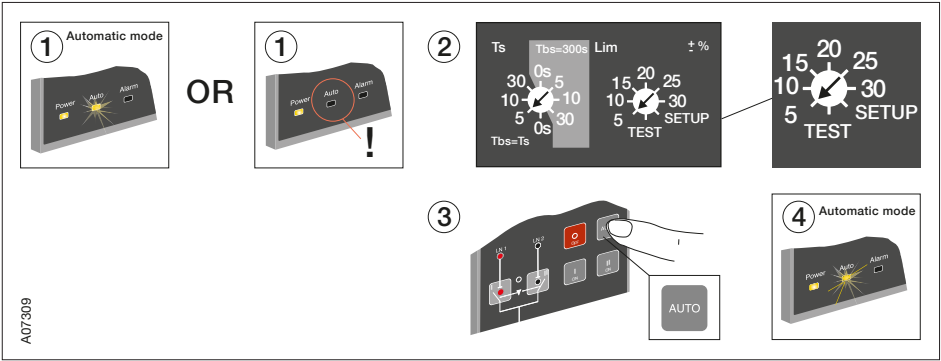

Figure 6.11 Selecting the automatic control units OMD200 and OMD300 to Automatic Mode
5. Set device to AUTO mode according to the Figure 6.11